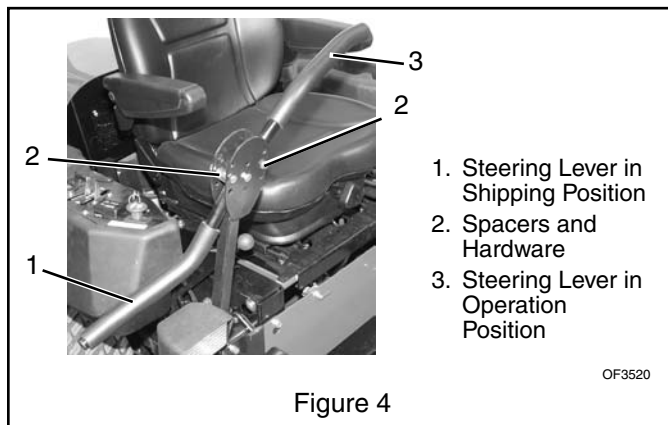

Figure 4
5. Position Steering Levers - Remove bolts and spacers from steering rod. Flip the steering levers into operating position. Reinstall spacers, bolts and nuts. Tighten hardware securely. See Figure 4.